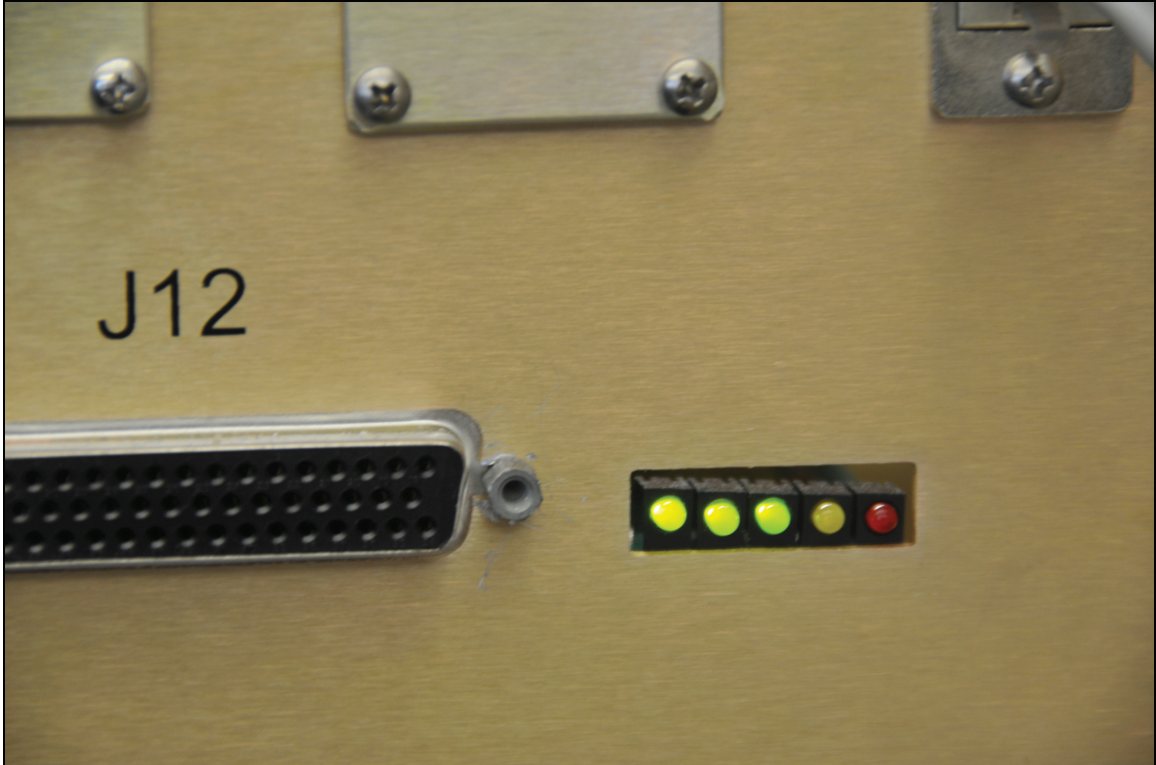

Figure 1 - PS 1 and PS 2 LED OK
2. Confirm that both the far left LED's are green, refer to figure 1.